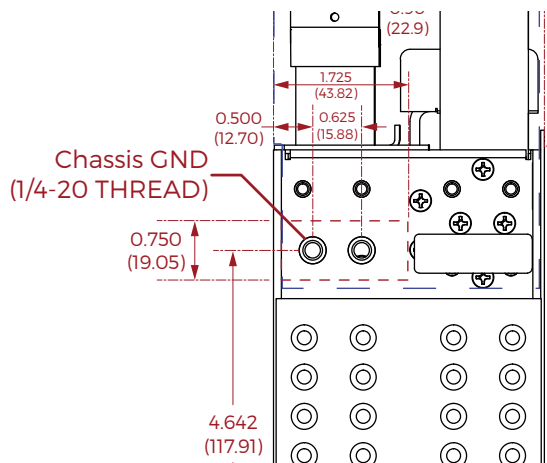

Figure 9. Chassis Ground Connection
9.6 Chassis Ground Connection. This is located on the left side of the chassis as shown in figure 9 below and is a pair of 1/4-20 bolts.